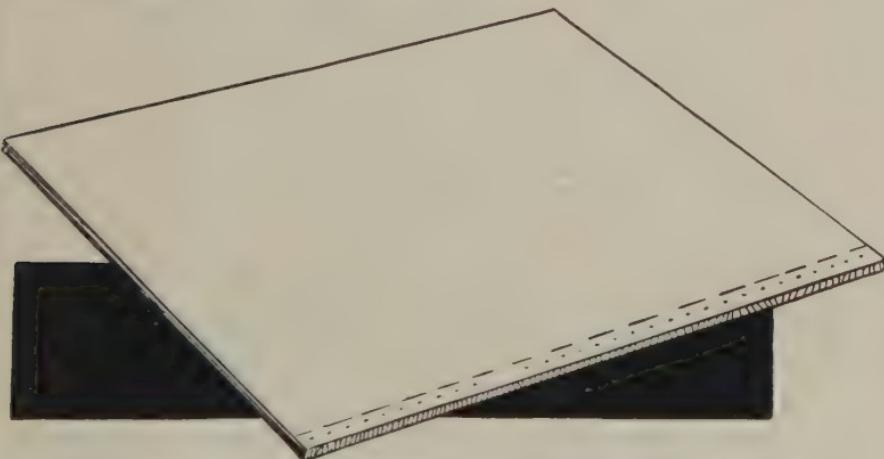

FIG. 272—STABBING SECTIONS—HOLES IN ALL SECTIONS MUST BE UNIFORMLY SPACED APART AND IN LINE
7. Set up your "stabbing" press, if one is available, to pierce holes about three quarters of an inch apart and $\frac{3}{16}''$ from glued edge of sections. Fig. 272.